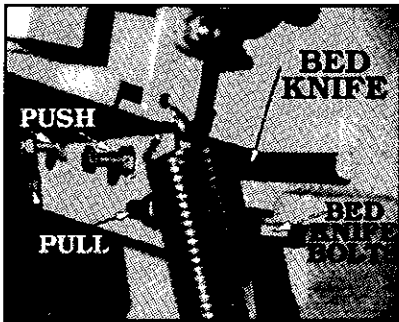
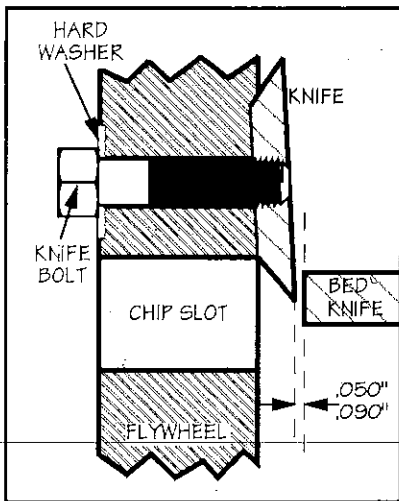
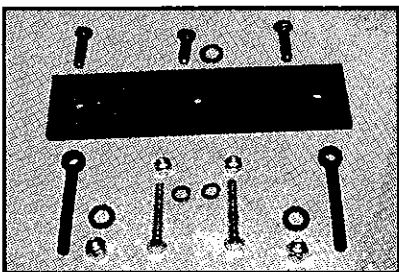

FIG. 22 - BED KNIFE
FIG. 23 - CROSS-SECTION OF
FIG. 24B - 24" BED KNIFE KIT
STEP 9: Check bed knife. A single bed knife is mounted to front of the housing, directly under the hopper. Bolts and bed knife are visible from the outside of chipper. (Refer to Figure 22.) Further inspection of cutting edge can be made through the hopper inlet.
STEP 11: Adjust gap between bed knife and knives on flywheel. Use feeler gages to set a gap of .050 to .090 inch. Loosen the four nuts on the push and pull bolts under hopper. Position bed knife by moving bar in slots with the two push bolts. (Refer to Figure 22 and Figure 23.) Once gap is set, lock the push and pull bolts into place and torque the bed knife bolt to 35 foot · pounds.
Replace bed knife with only factory approved bed knife kit which includes knife and bed knife bolts. There are two knife kits (an 18" kit and a 24" kit). (Refer to Figure 24B.)
The 18" chipper has two 3/8 -16 x 1 inch, Grade 8, bed knife bolts. The 24" chipper has two 3/8 -16 x 1 1/4 inch, Grade 8, and one 3/8 -16 x 1 inch, Grade 8, (with a flat washer) bed knife bolts. Torque to 35 foot · pounds. The position of the bed knife of the 18" and 24" chipper is held by four bolts that lock in place. The bed knife is pushed on by two 5/16 x 2 inch all-thread bolts installed with two 5/16 inch lock washers and two 5/16 inch nuts. The bed knife is pulled on by two 3/8 x 3 inch eye bolts installed with two 3/8 inch SAE washers and two 3/8 inch Nylock ® nuts. (Refer to Figure 22 and Figure 24B.)